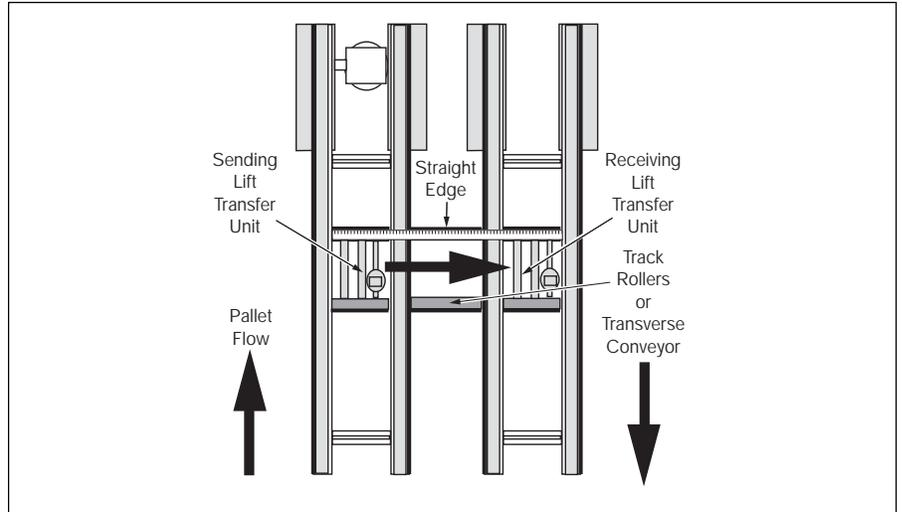

Figure 5
- 6 Check LTU alignment (Fig. 5), and adjust position in conveyor system as required.
**NOTE:** Use a straightedge to be sure that the Lift Transfer Units and track rollers are in perfect alignment from side-to-side, as shown in Fig. 5. This is critical for pallet transfer.